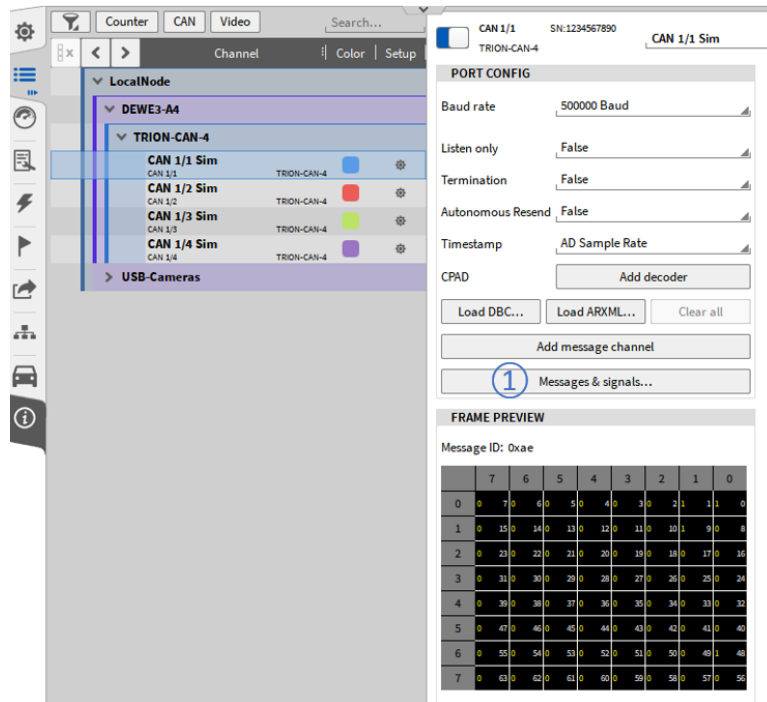

Fig. 7.209: CAN port configuration
Instead of using .dbc or .arxml files for data decoding it is also possible to add CAN messages and signals manually. OXYGEN provides a CAN editor for this purpose which can be opened by pressing the *Messages & signal* button the CAN port configuration (see ① in Fig. 7.209):